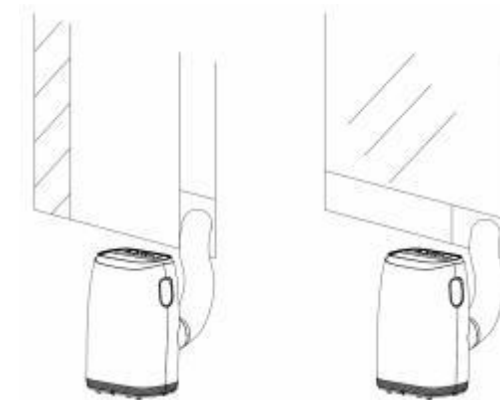

Fig 5
- As shown in Fig.5, install the exhaust hose, and adjust the window position well.